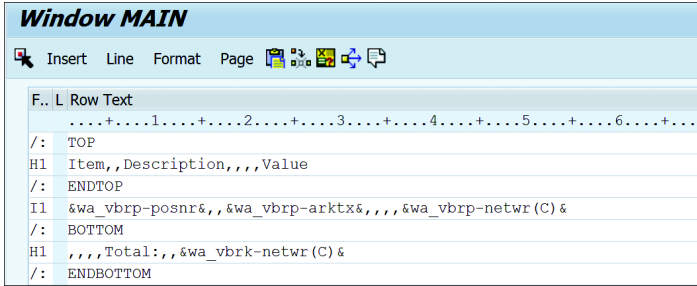

Figure 18.25 Using Tab Positions
5. Once the paragraph formats are created, edit the main window text elements to use these paragraph formats, as shown in Figure 18.25. To use the tab positions, insert a double comma (, ,) between words. Each double comma takes one tab position. Note that the net value field is printing leading spaces in Figure 18.21. You can get rid of the leading spaces by using the formatting option (C) with the field, as shown in Figure 18.25 for the wa_vbrp-netwr variable.